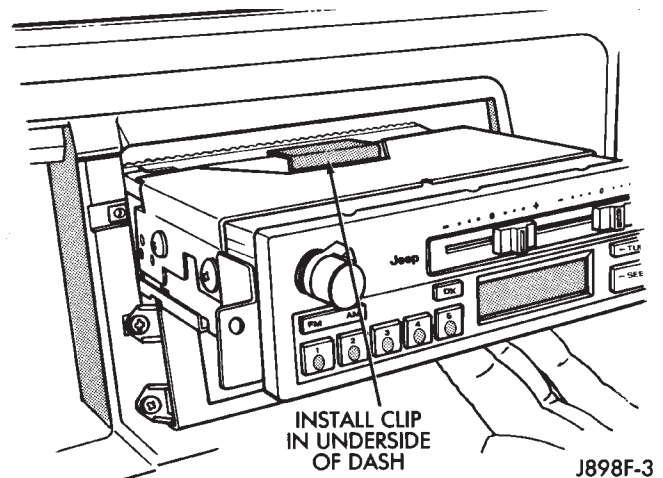

Fig. 7 Radio Clip Install - XJ
- (6) To install radio, route harness above and to the right of the radio cavity. Make radio harness, ground and antenna connections.
- (7) While installing the radio, make sure that clip on top of radio (Fig. 7) is installed in mating slot of instrument panel.